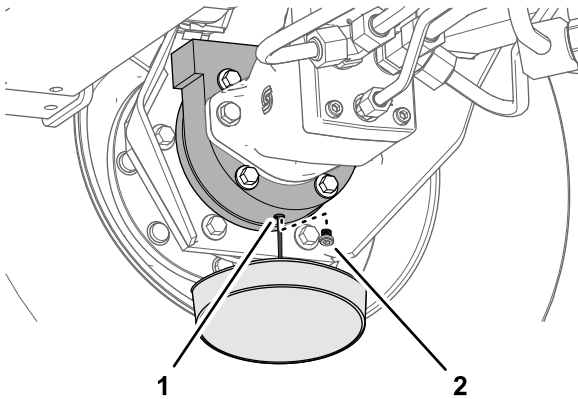

Figure 93
- Place a drain pan under the brake housing, remove the drain plug, and allow the oil to fully drain (Figure 93).